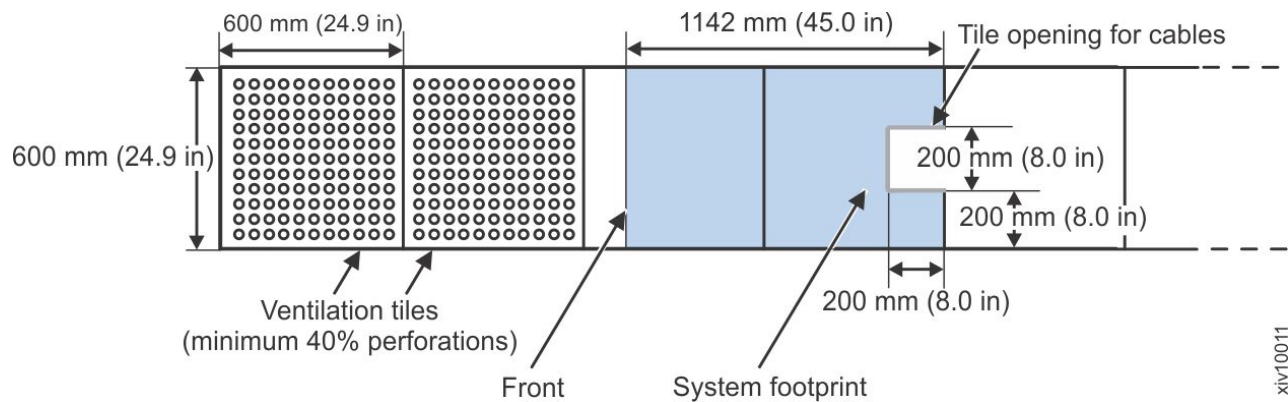

Figure 13. Raised floor requirements
perforated tiles immediately in front of the rack (see Figure 13).
3. Cut a 200 × 200 mm (8 × 8 in.) opening in the rear floor tile for under-floor cabling and electricity (see Figure 13).
4. To allow for ventilation for airflow and support system cooling requirements, have at least two tiles (and preferably more) in front of the FlashSystem A9000R system (see Figure 13). These tiles must have a minimum of 40% perforation.